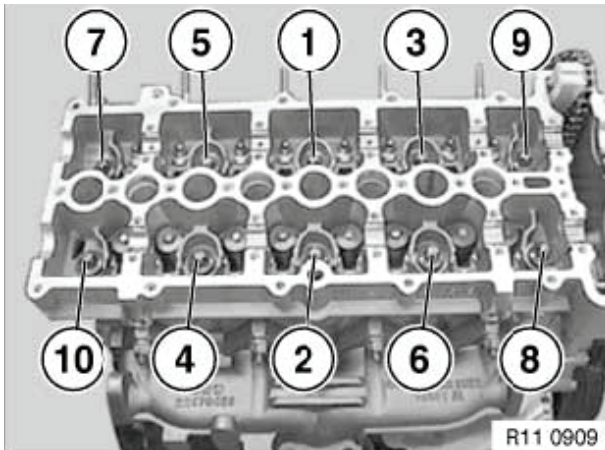
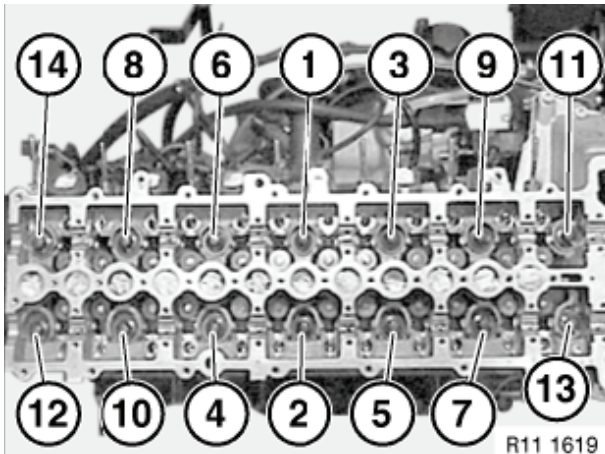
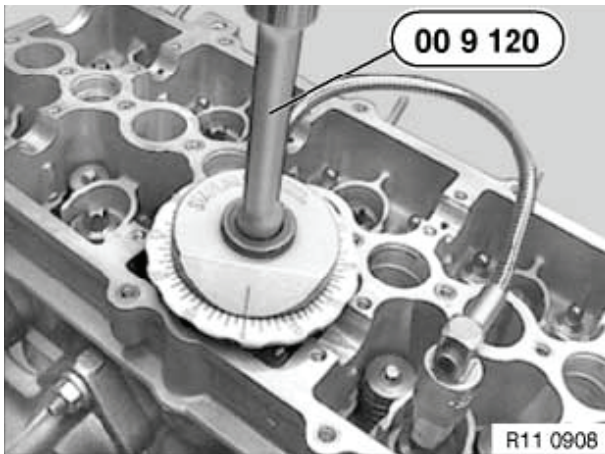

Figure 5-36
Figure 5-37
Figure 5-38
6. Lightly oil threads of new bolts and install new bolts. Tighten the bolts in stages, and in the sequence shown (Figure 5-36) and (Figure 5-37). Use a torsion angle tool such as that shown (Figure 5-38). **NOTICE: NEVER reuse cylinder head bolts. New bolts must be installed whenever they are removed. DO NOT wash off bolt coating.**